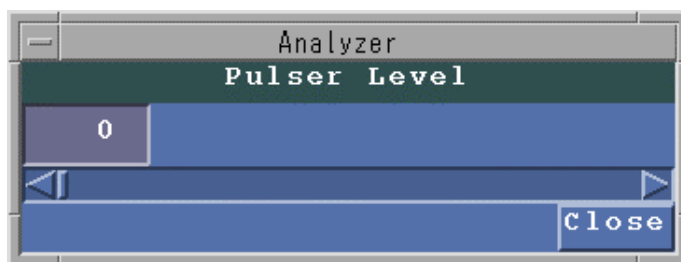

Fig. 16 Pulser window
- ◆ If you want to use the **Pulser** function, click on the **Pulser** button to turn it on; then click on the **Level** button. The scroll bar will be displayed as shown in Fig. 16.. When you change the level, the position at which the pulse appears changes.